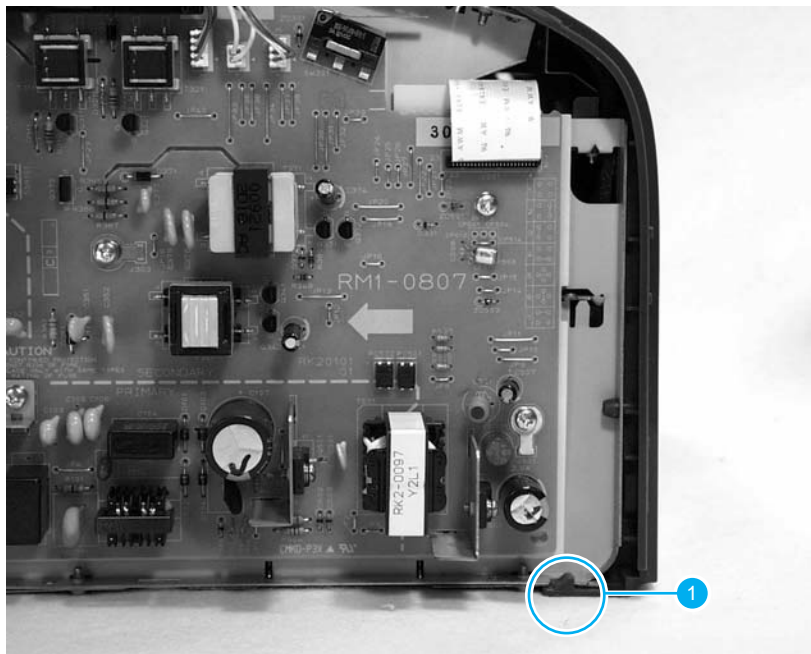

Figure 5-15.
5. Using your index fingers or thumbs, pull down on the tabs on the bottom of both sides of the front cover (callout 1, figure 5-15).